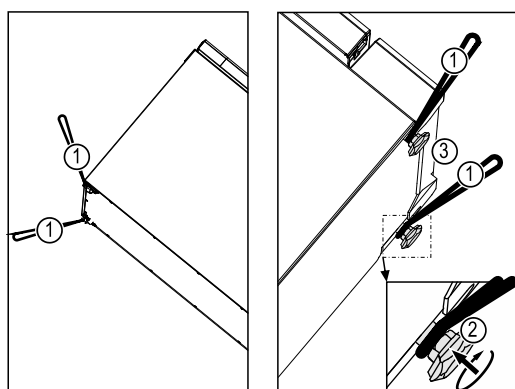

Fig. 6
- ▶ Turn in the adjustable feet Fig. 6 (2) on the appliance in order to be able to use the lower transport straps.
- ▶ Use all four carrying straps Fig. 6 (1).